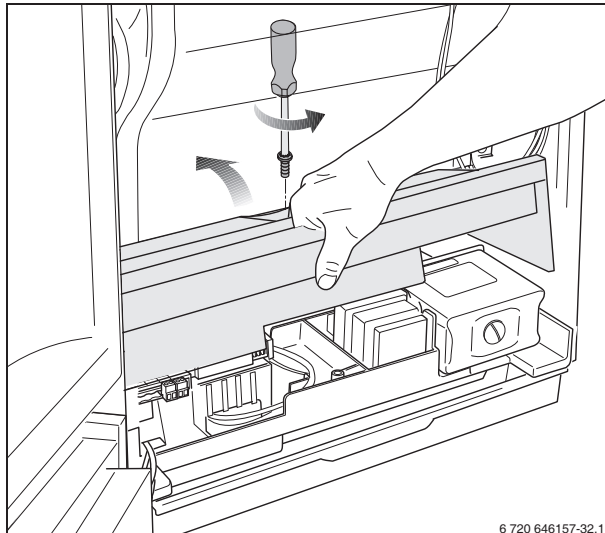

Fig. 32 Removing the cover
- Remove the screw to release the cover over the electrical connections and pull the cover upwards (fig. 32).